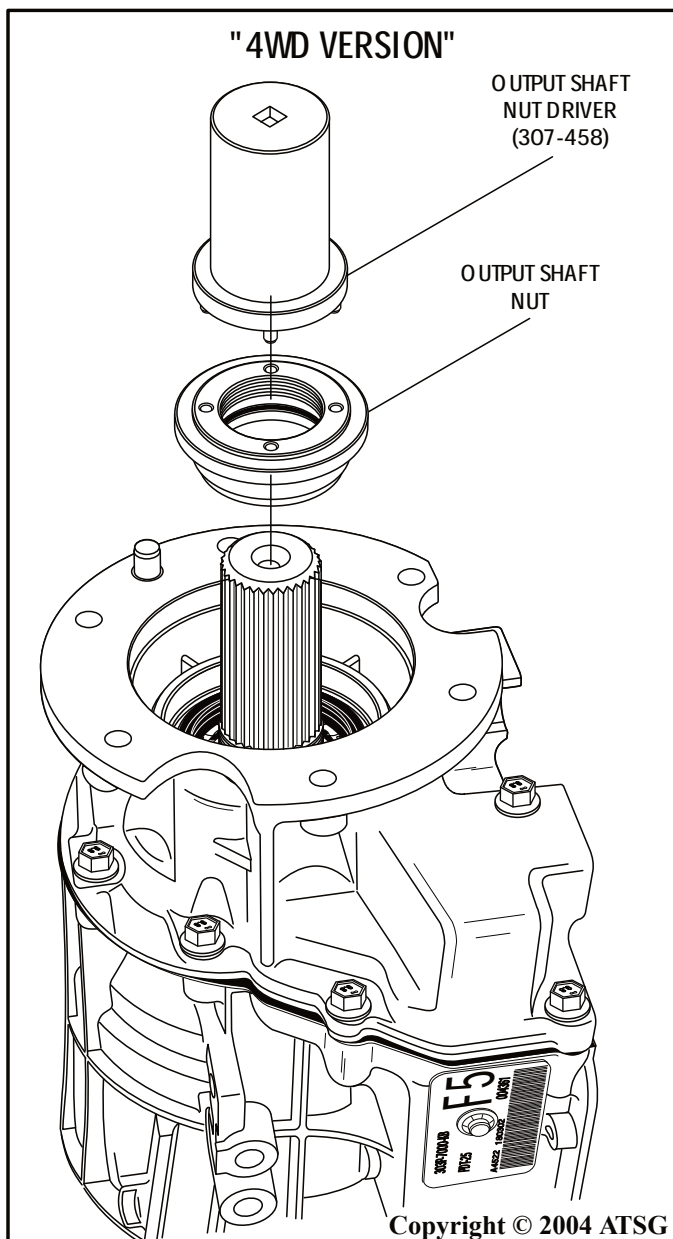

Figure 71
33. Install the output shaft nut onto output shaft, using the special nut driver 307-458, as shown in Figure 71, and hand tighten.